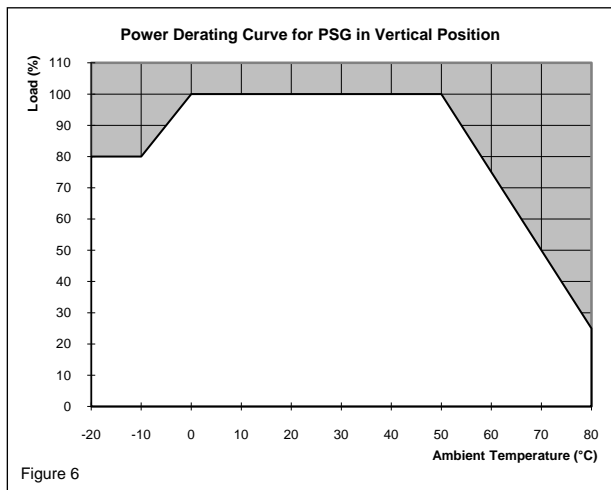

Figure 6
5.4. Thermal behavior (Fig. 6).
Operating temperature (surrounding air temperature)	-20°C to +80°C (Refer to Fig. 6)